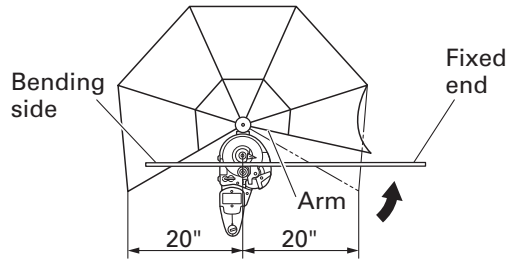

Fig. 21
- **Install the deflection guard for operation with the bending length of a rebar 20" (inside dimension of the deflection guard) or less to protect the persons around the rebar cutter/bender in case rebar splinters into pieces and deflects during bending. (Fig. 21)**
- (2) Be sure to install the deflection guard when bending a rebar whose bending length is 20" (inside dimension of deflection guard) or less and the fixed length is more than 20". In this case, move the arm at the fixed end. (Fig. 21)